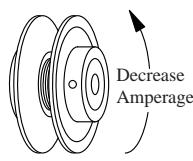

Fig. 7
- Pulley adjustment.** With an ammeter, check the motor amperage. Adjust the pulley until the amperage draw on the motor is just below that specified on the motor nameplate. To adjust the pulley, loosen the adjustment set screw and rotate the sheave. Tighten the set screw so that it is over a flat area, otherwise thread damage will occur. To increase amperage draw, increase pulley diameter. To decrease amperage draw, decrease pulley diameter (see Fig. 7). Recheck belt alignment.